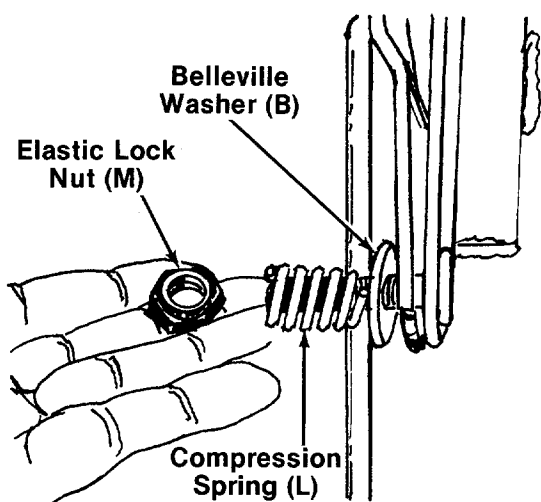

FIGURE 13.
18. Secure with belleville washer (B) (cupped side goes against shift lever), compression spring (L) and elastic lock nut (M). See figure 13. Tighten lock nut until compression spring holds the shift lever into detent slot on handle panel.